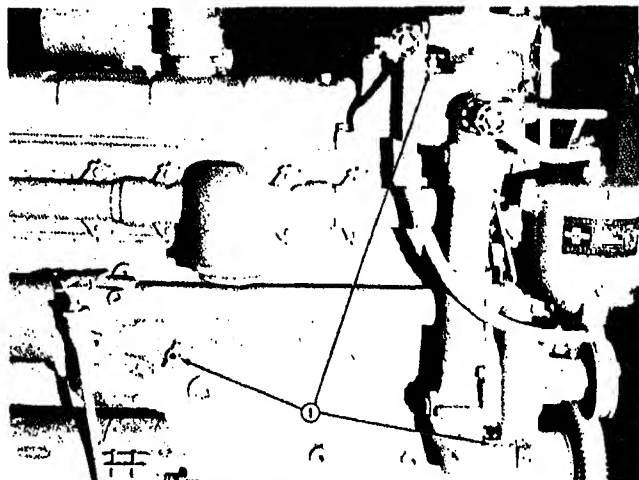

Fig. 0-1 Coolant vent and drain points
3. Open vent and drain cocks (1, Fig. 0-1), remove drain plugs and drain coolant from cylinder block, radiator, oil cooler and heat exchanger.
1. Location of engine serial number plate is shown in Fig. 0-1.